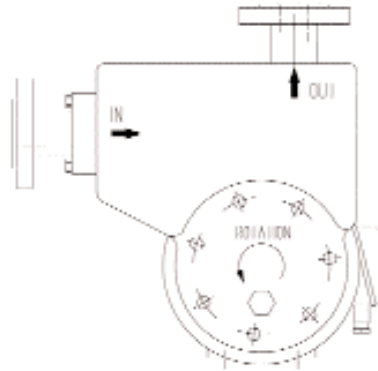

Figure 1: Direction and Port Location
- 2) Start the motor briefly to ensure that the pump is rotating in the correct direction. The motor should rotate in the direction shown (viewed from in front of the pump) to obtain the required direction of flow. (*see Figure 1*)